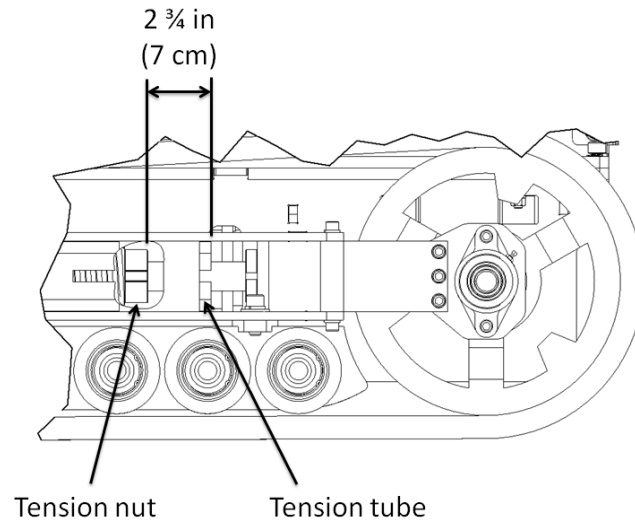
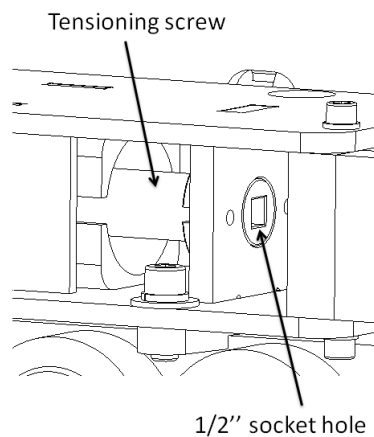

Figure 28 : Track tension validation
Figure 29 : Adjustment of the track tension
There should be 2 ¾ in (7 cm) between the tension nut and the end of the tension tube (see Figure 28). If not, adjust the track tension using the following procedure:
2. Using a ½ in drive socket wrench, turn the tensioning screw counter-clockwise (see Figure 29) until the distance between the tension nut and the back of the tension tube is 2 ¾ in (7 cm).
5. When the track is in place, adjust its tension by turning the tensioning screw counter-clockwise with a ½ in drive socket wrench until the distance between the tension nut and the back of the tension tube is about 2 ¾ in (7 cm) (see Figure 28 and Figure 29).